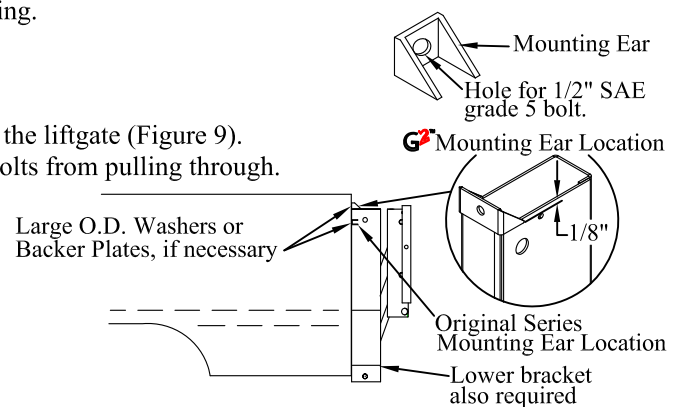

Figure 9: Upper mount option #2.
- Weld** the mounting ears to the liftgate in the position shown (Figure 9).
- Bolt** the liftgate directly to the service body using a top mounting ear on the liftgate (Figure 9).